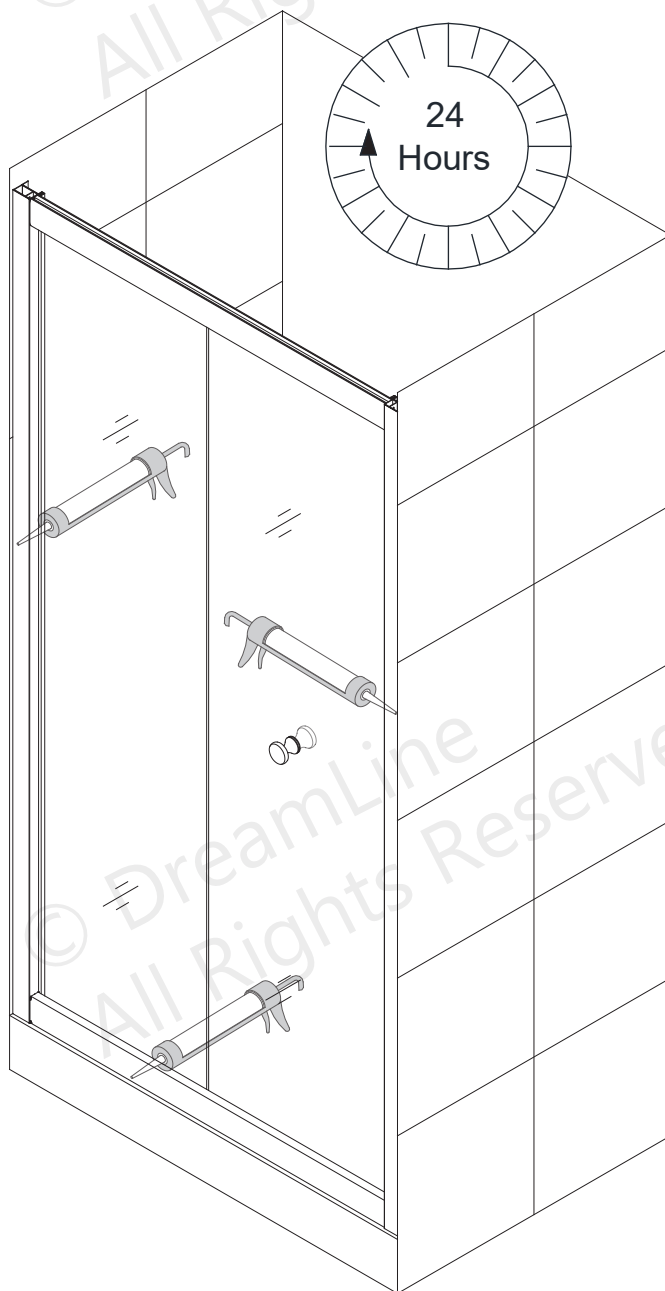

Fig 16
16. From the inside of the shower: Apply a good quality mildew-resistant silicone between the walls and the **Wall Profiles (#01)** and along the bottom **Guide Rail (#03)** and the threshold. **(Fig 16)**